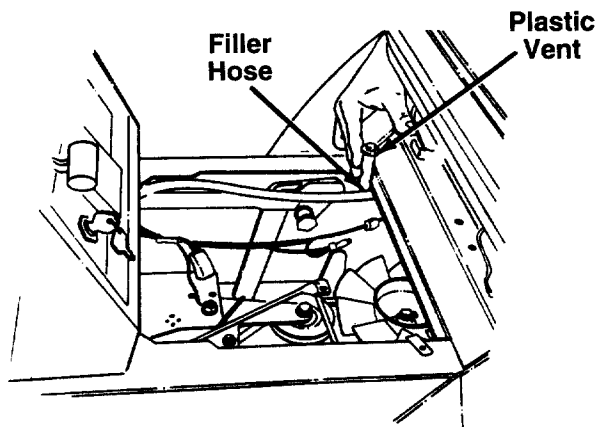

FIGURE 24.
7. Clean around filler hose (inside right frame) and bend hose upward. See figure 24.